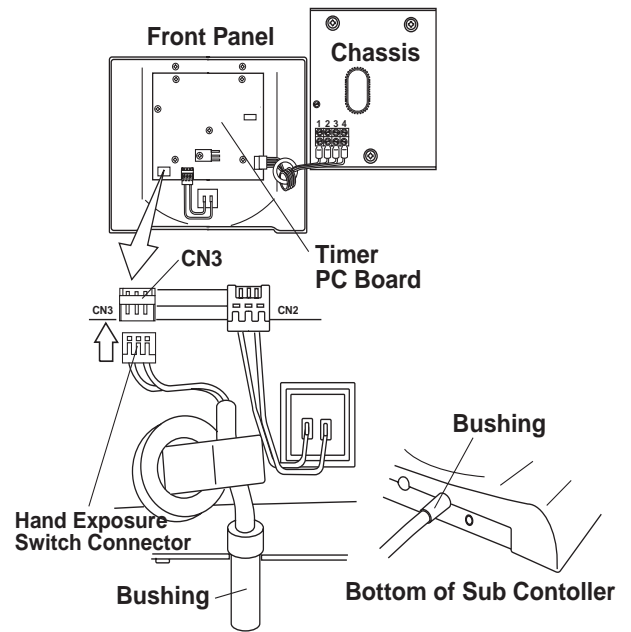

Fig.3-23 Connecting Hand Exposure Switch
3. Connect the connector at the end of hand exposure switch coil cord to CN3 connector on the timer PC board. (Fig.3-23)
4. Insert the bushing of coil cord into the slot at the bottom of the chassis, reattach the front cover and secure two (M3 x 8mm) screws again. (Fig.3-23)